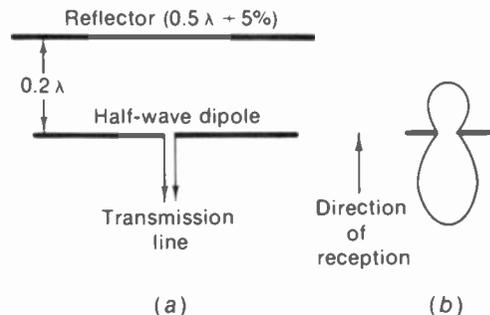

FIGURE 25-13 DIPOLE ANTENNA WITH PARASITIC REFLECTOR IN BACK.
When current flows in the receiving antenna it radiates part of the intercepted signal, as in a transmitting antenna. If a conductor approximately one-half wave long is placed parallel to the half-wave dipole antenna but not connected to it, as illustrated in Fig. 25-13, the free wire will intercept some of the signal radiated by the antenna. This signal is reradiated by the free wire to combine with the original antenna current. As a result, part of the intercepted signal lost by radiation in the receiving antenna is recovered by using the free wire, providing increased gain and directivity. The free wire is called a *parasitic* element because it is not connected to the
**Dipole and reflector.** Referring to Fig. 25-13, the reflector is usually placed approximately  $0.2\lambda$ , or a little less than a quarter wave, behind the dipole, to reinforce signals arriving from the front. Also, the reflector is about 5 percent longer than the dipole, or a little more than a half wave. The antenna response depends on the spacing between the elements, and the tuning of the parasitic, which can be adjusted by changing its length. Closer spacing lowers the antenna impedance and narrows the frequency response. For the typical arrangement shown in Fig. 25-13 the dipole and reflector have a voltage gain of approximately 5 dB. The antenna impedance is about one-half the impedance of the antenna itself, resulting in  $150\ \Omega$  for the folded dipole and reflector and  $36\ \Omega$  for the straight dipole and reflector. The front-to-back ratio is